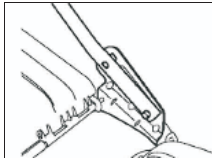

Fig.2A
A) Fix the lower handlebars into the unit body with the locking knobs. (Fig.2A/2B/2C)